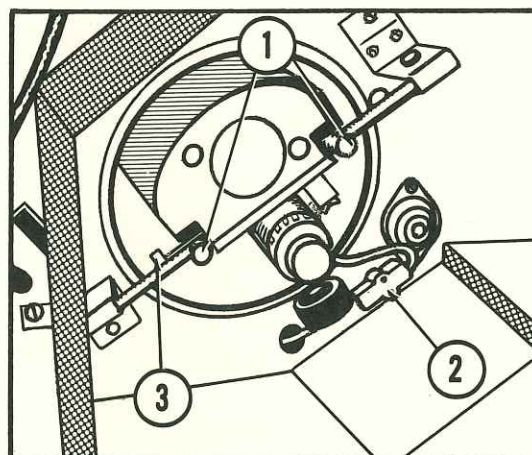

Figure 6. Right Side Lamp Duct View
- b. After setting the cover aside, loosen the thumb screw (3, Figure 6).
h. Install the lamp assembly (1, Figure 6) by carefully sliding the assembly along the guide rods, making certain the duct flanges engage the guide rods. Otherwise the assembly may drop on the cylinder and damage it.
i. Slide the assembly as far as it will go. It will automatically be stopped when the lamp centers in the glass cylinder. Tighten thumb screws in Figure 6 at both ends of the duct assembly.
j. Fasten the wire lamp leads by pushing the metal ends into the ceramic lamp terminals (2, Figure 6). Replace the lamp housing cover on the right side of the machine to complete installation procedure on this side of the machine.